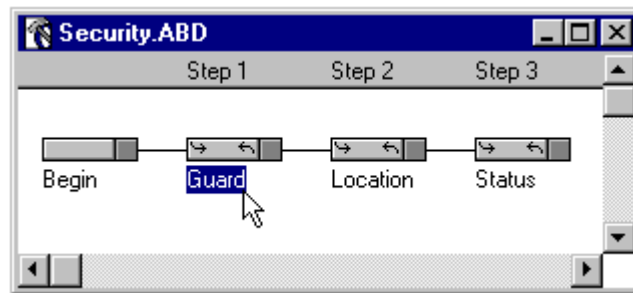

Figure 3-19 Select “Guard” Handler
17. Click the “Guard” Handler to select it (Figure 3-19).